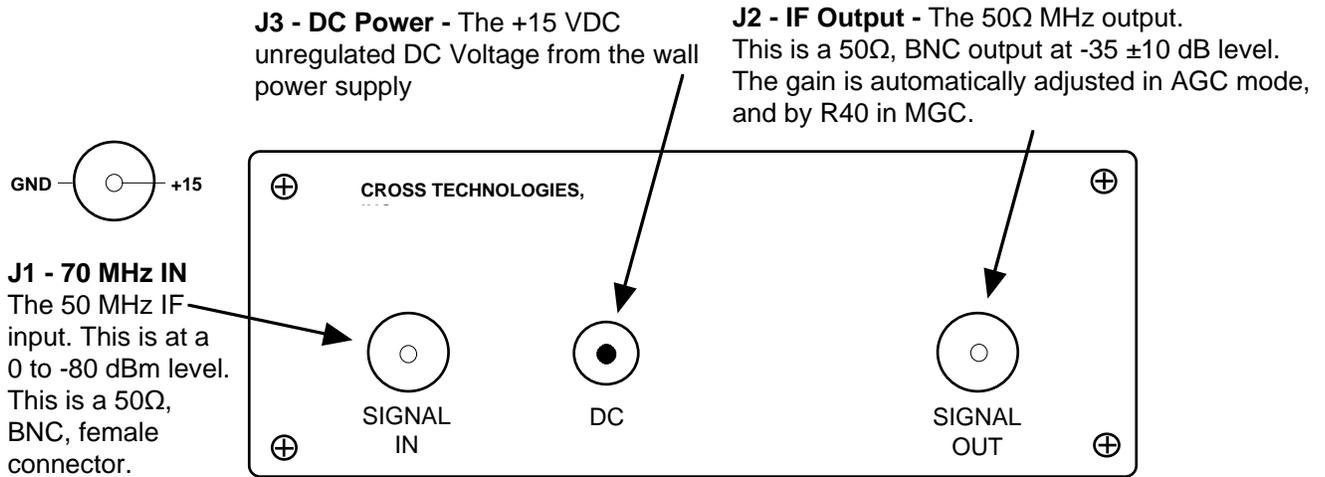

Figure 2.3 2097 Rear Panel Inputs and Outputs
2.3 Input / Output Signals - Figure 2.3 shows the input and output signals to the 2097.
- 3.) Connect a 0 to -80 dBm signal to 70 MHz IF In, J1 (*Figure 2.1, Figure 2.3*).